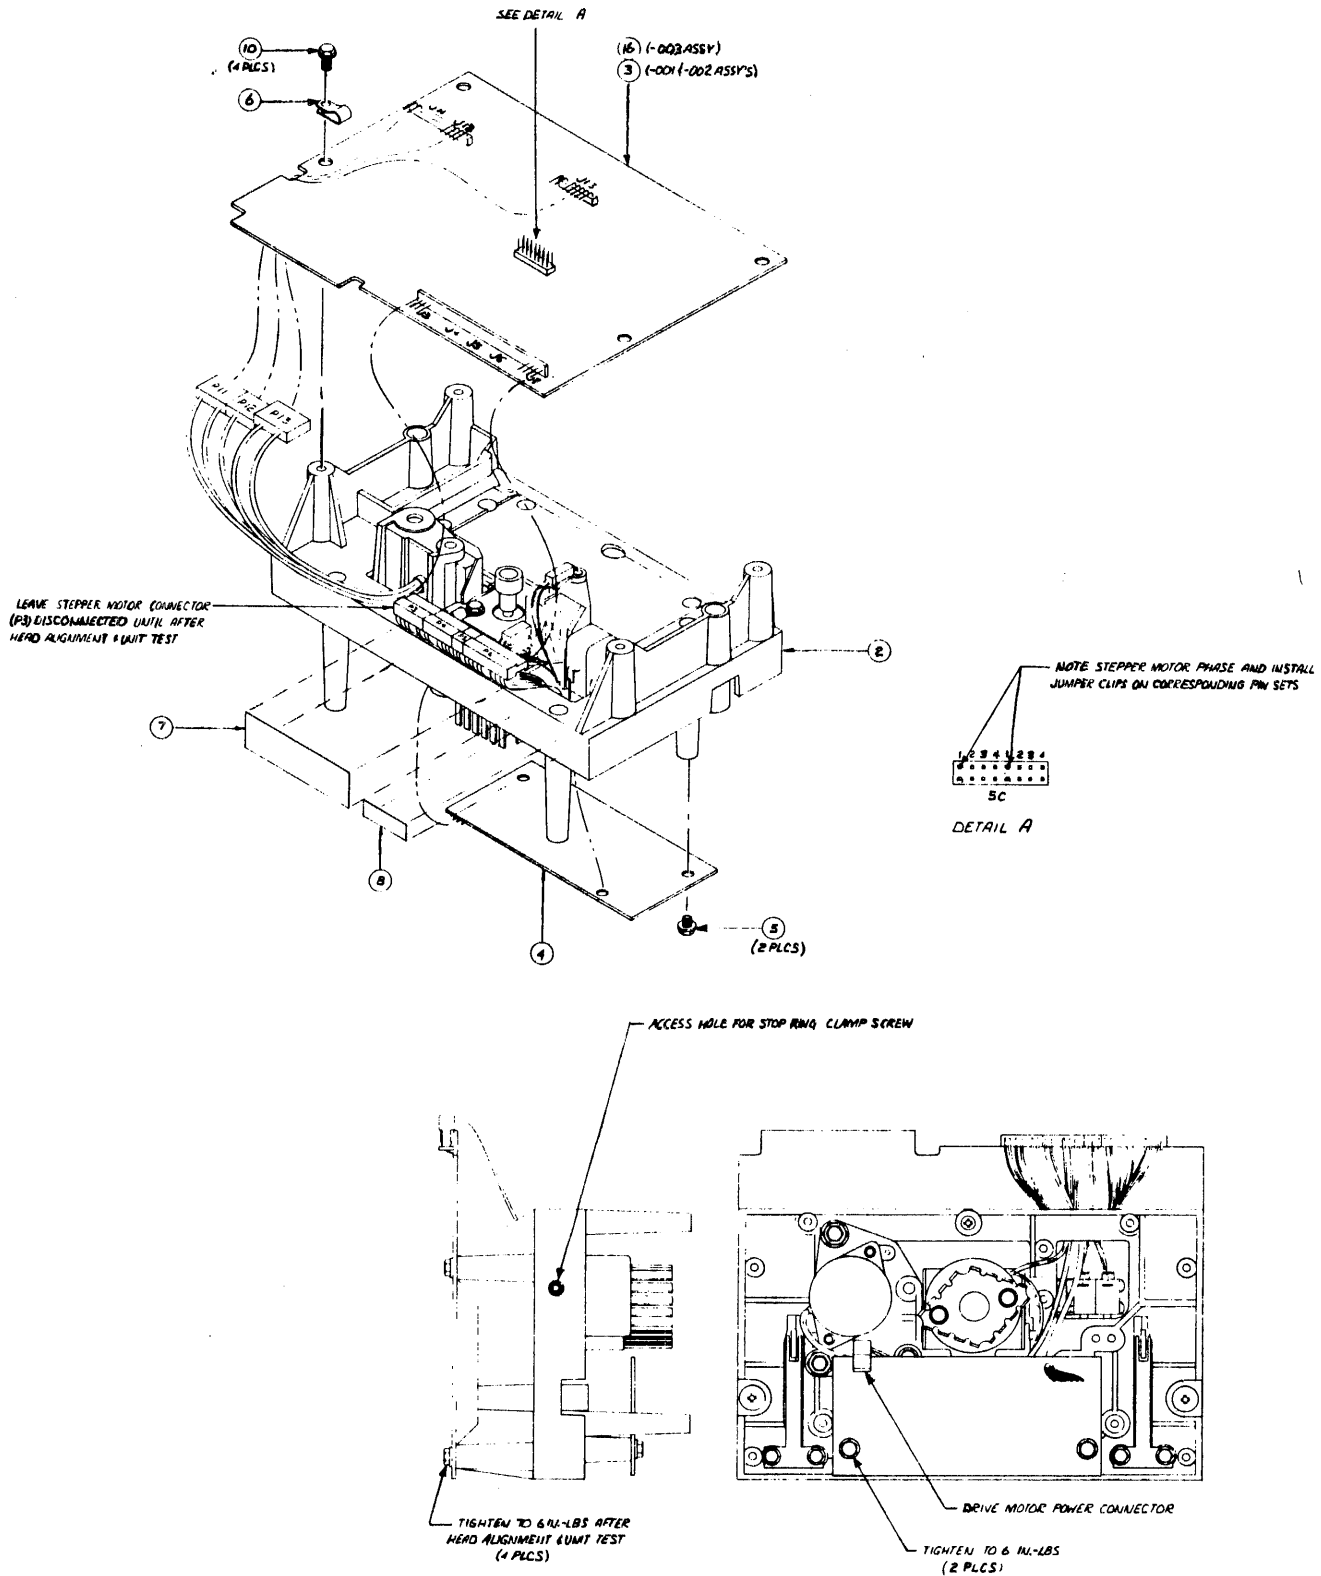

Figure 7-1. Main Board Removal Diagram
## 7.2.1 Main Board (Figure 7-1)
**7.2.2 Motor Driver Board (Figure 7-1)**